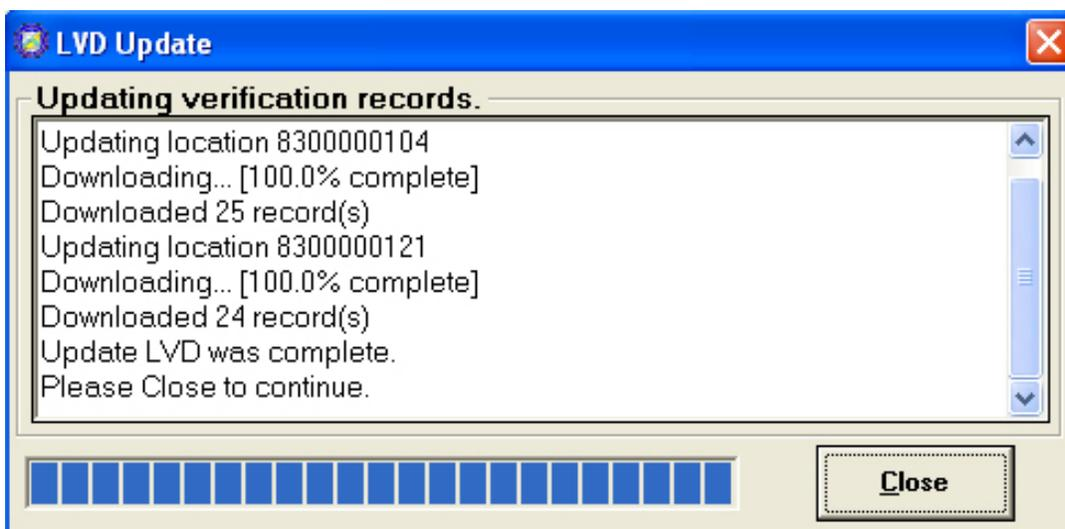

Figure 6.10.13
1. Select '**Tools**', '**Check Host For**', '**LVD Verification Records**'. The 'Process LVD Update Information' window opens (Figure 6.10.13).